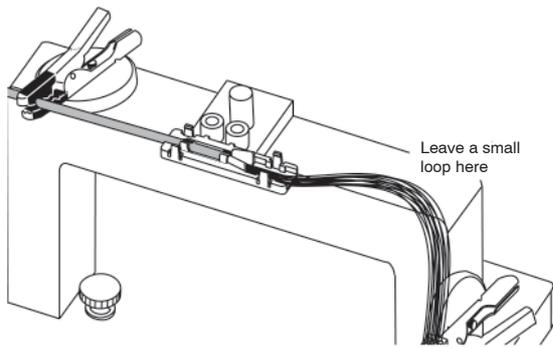

Figure 17
*Leave a small fiber loop between the BTF body and the 900 $\mu\text{m}$  assembly to prevent fiber breakage during later steps in this procedure (Figure 17).*